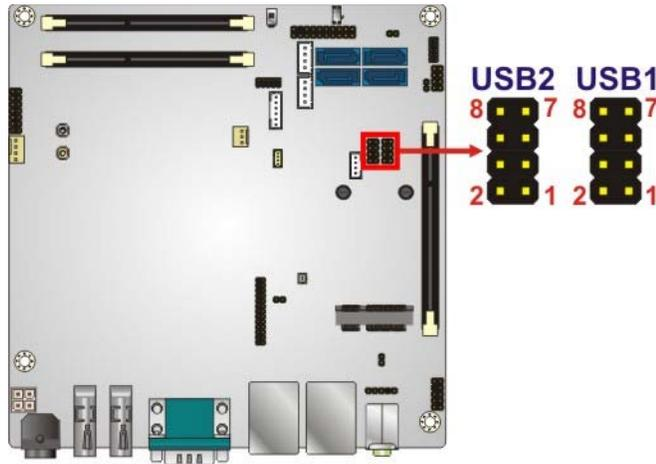

Figure 3-33: USB Connector Locations
- CN Location:** See **Figure 3-33**